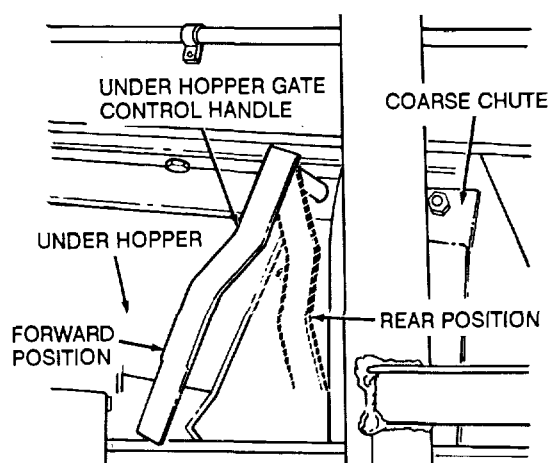

**Figure 33. Main control panel switch handle operation.**
- (5) Turn off the power at the main electrical switch (fig. 33).
- (6) Stop the engine (para 15).